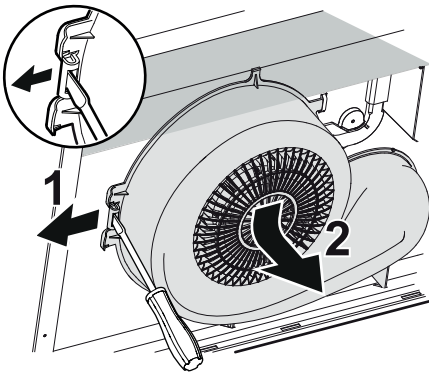

Fig. 4
Release the fan housing by bending the snap retainer outwards in the direction of the arrow (1) and pushing the housing away from you and down (2), Fig. 4.